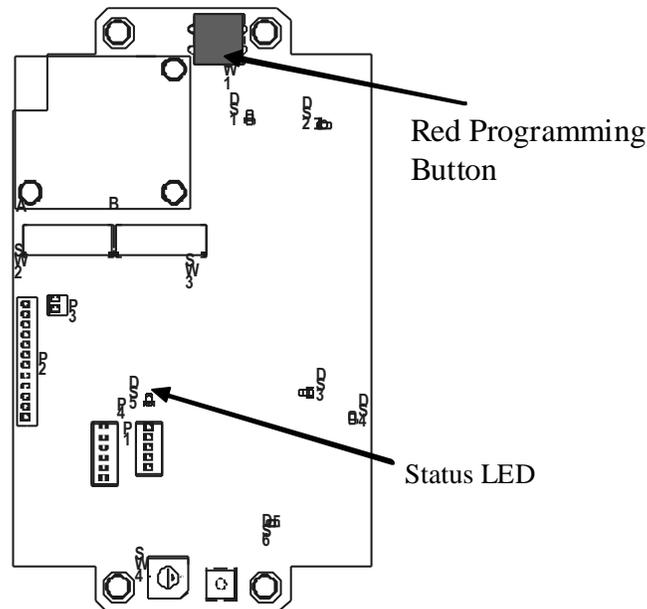

Figure 13
- (1) **Press and hold the Red Programming Button (see Figure 13) on the circuit board until the status LED (DS5) flashes 3 times (approximately 8 seconds). Once the LED starts flashing, release the red button.**
- (2) **To set the left limit of the travel envelope, run the monitor left until it has reached the desired position. Quickly press and release the Red Programming Button. The status LED will flash once to acknowledge the new travel limit position.**
(3) To set the right limit of the travel envelope, run the monitor right until it has reached the desired position. Quickly press and release the Red Programming Button. The status LED will flash rapidly approximately 8-10 times to acknowledge the new travel limit position as well as the completion of the programming sequence.
(4) Replace the RF Receiver/Control Module cover removed earlier.
DS1 (Figure 13) - Lights when either nozzle direction is engaged.
DS2 (Figure 13) – Lights when either of the VALVE OPEN/CLOSED buttons are pushed.
DS3 (Figure 13) – Comes on when the UP or the DOWN button is depressed.
DS4 (Figure 13) – Comes on with any horizontal movement.
DS5 (Figure 13) – See Table 2.